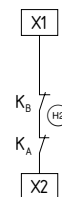

Fig. 4
**Automatic start (see Fig. 4)**